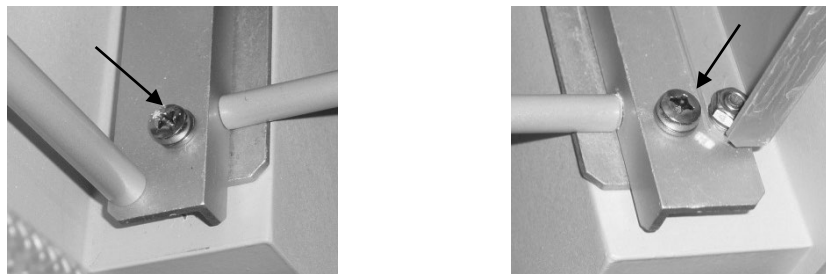

Figure 16 – Left and Right Hydraulics Rail Screw Locations
55. Using Figure 16 locate and remove the two (2) bolts holding the hydraulics into the cabinet.